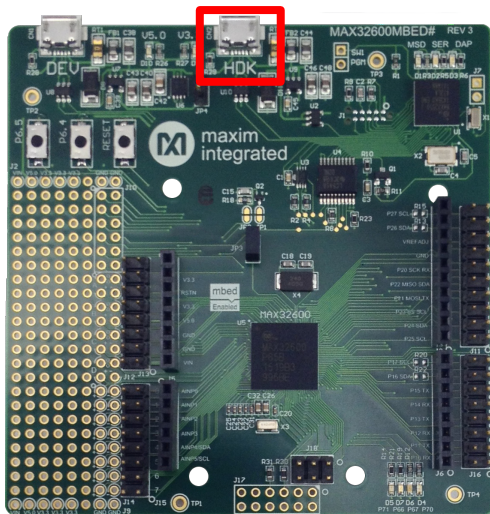

Figure 5. Connect the MAX32600MBED to a computer using the HDK USB port.
4. Connect the MAX32600MBED to the computer using the HDK USB port for programming (Figure 5).